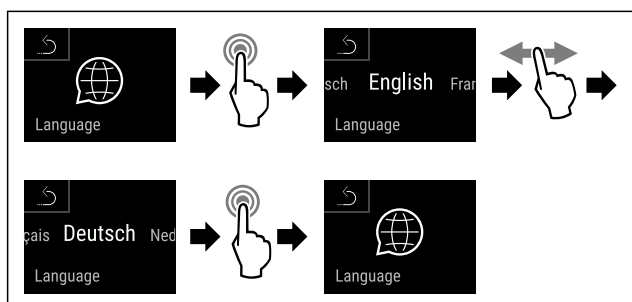

Fig. 105
- ▶ Complete steps (see Fig. 105).